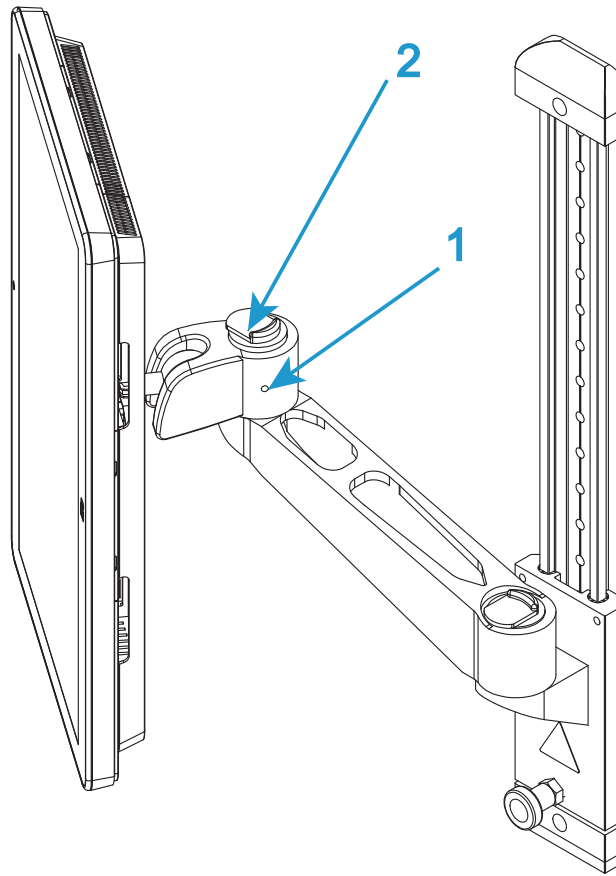
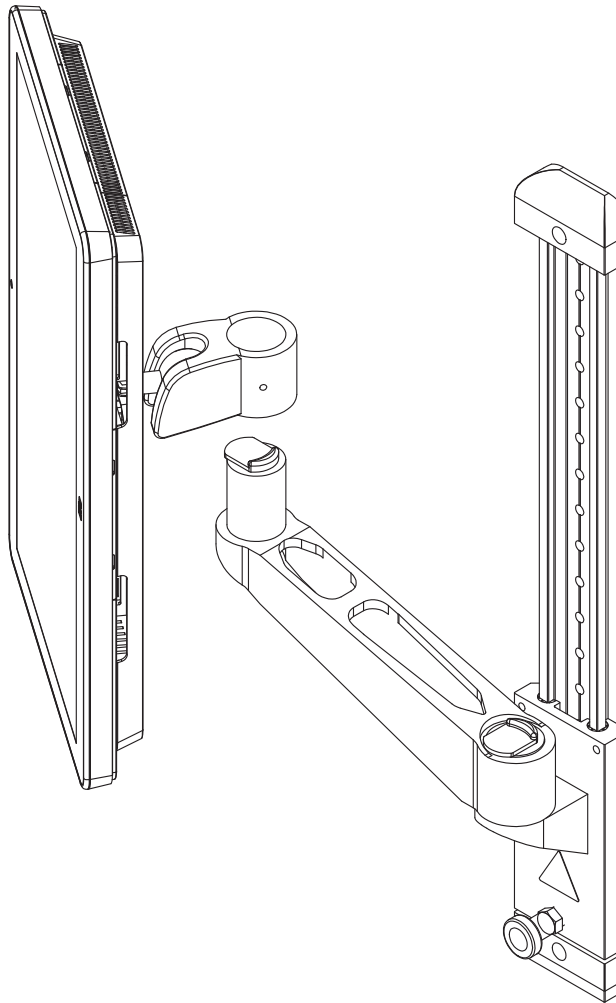

Figure 12. Mounting arm
Figure 13. Lift to remove
3. If necessary, loosen the set screw on the side of the “elbow” on the mounting arm (1 in Figure 12 on page 50).
4. Operate the release mechanism on top of the “elbow” (2 in Figure 12 on page 50) and lift the Bluehill[®] Operator Dashboard clear of the mounting arm (Figure 13 on page 51).